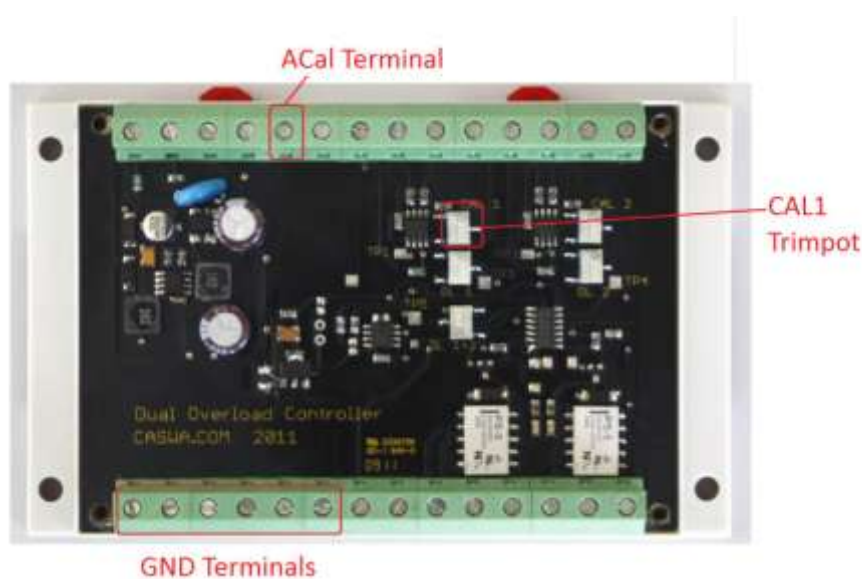

Figure 3: Setting the gain for Hoist A
3. Connect the positive probe to the ACal terminal on LimitMate (see Figure 3) and set the multimeter to DC Volts.